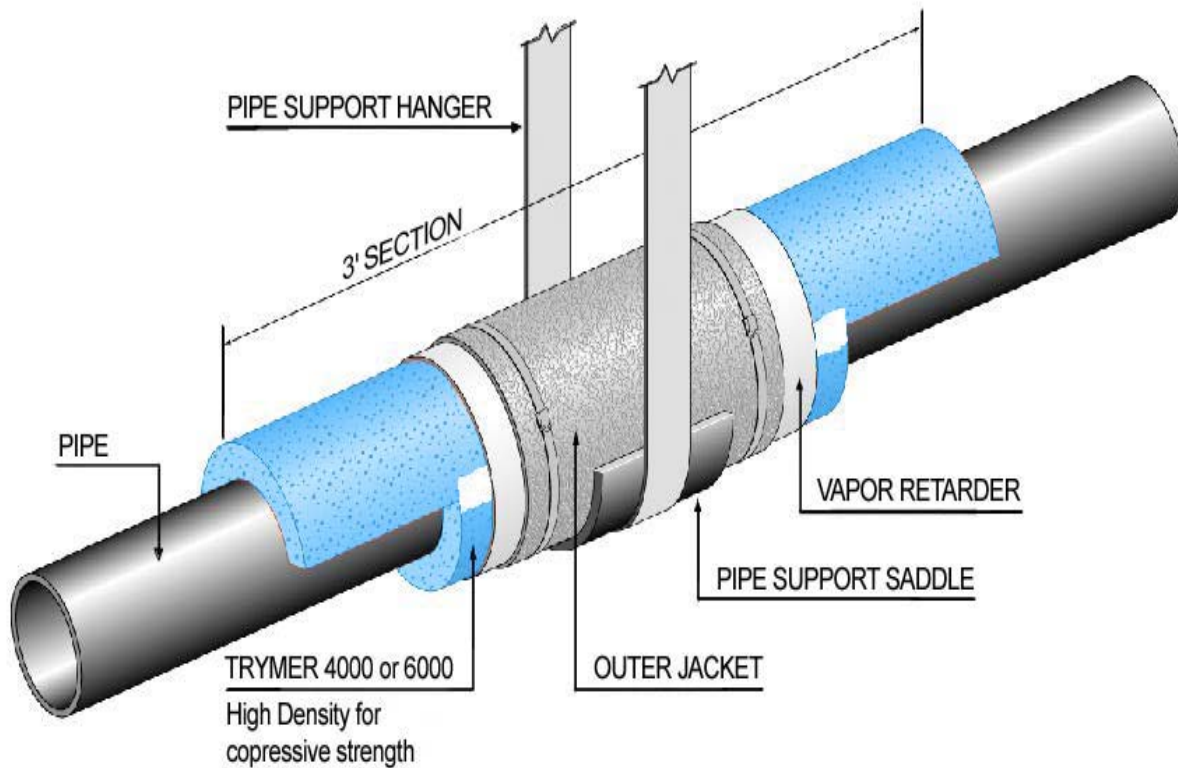
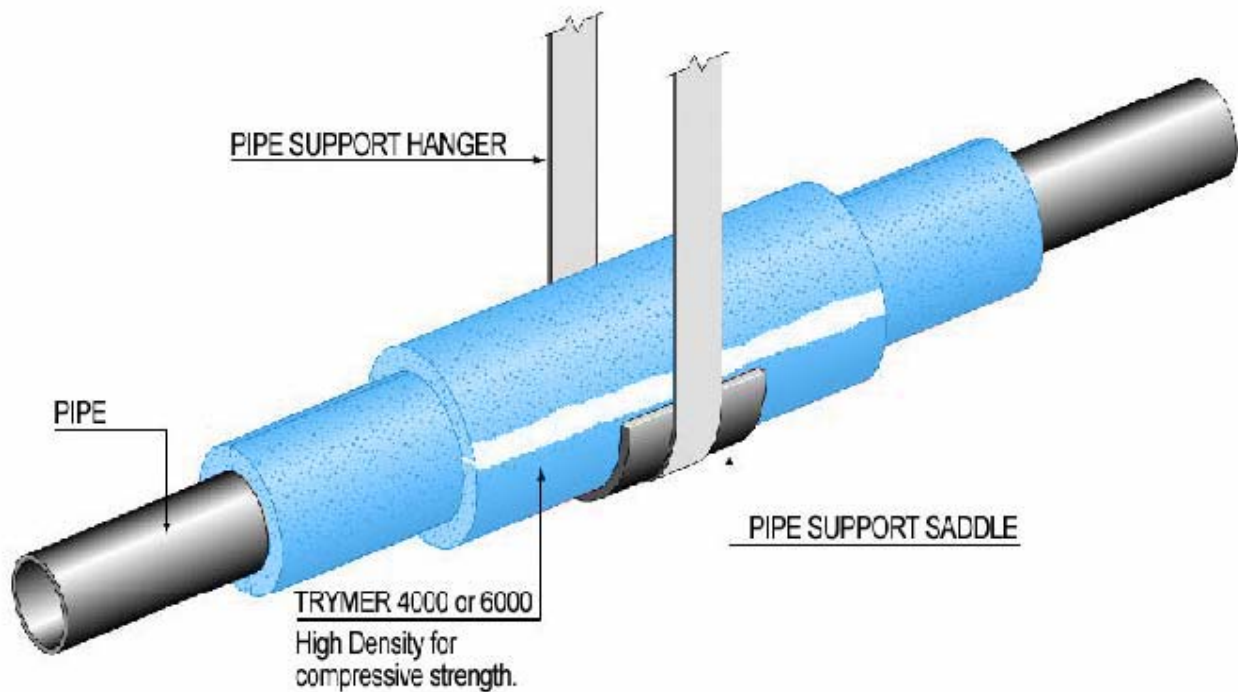

Figure 5
Figure 6
- 4.1.5 Install half length pipe section half round on bottom of all pipe hanger saddles with a full pipe section half round on the top so as to maintain a staggered joint through the pipe hanger saddle (see Figure 5 in Appendix B). In double layer systems install nested half and full pipe half round sections in bottom of saddle or use a full thickness single layer pipe section with shiplap ends cut to the depth of the inner layer thickness so the outer layer will overlap (see Figure 6 and Figure 7 in Appendix B).